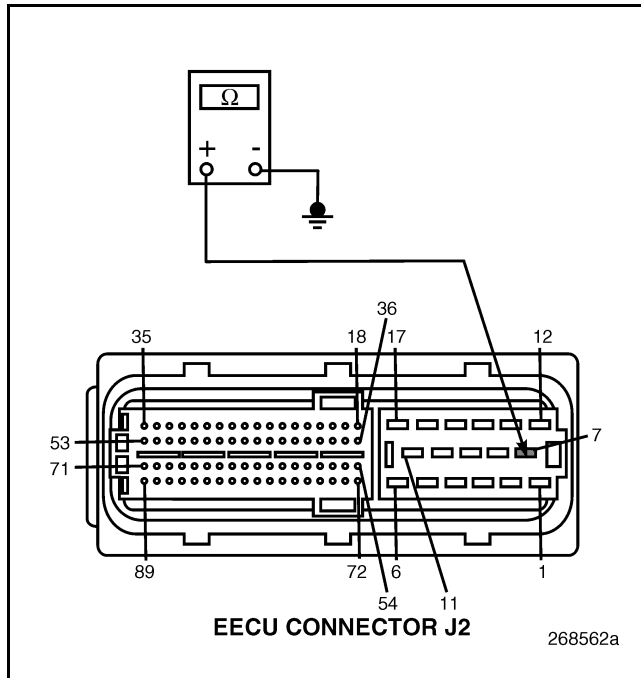

Figure 677
4. Check for continuity between EECU harness connector J2 pin 7 and a good ground (see Figure 677).